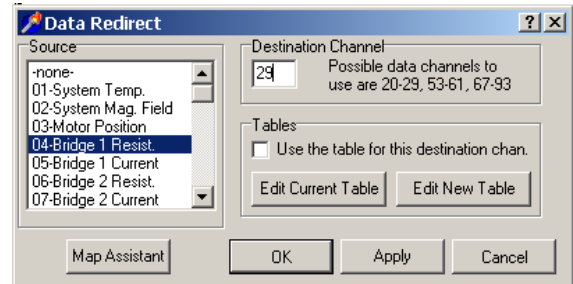

Figure 8. The Redirect Data dialog with the Source channel selected
3. When the **Data Redirect** dialog opens (Figure 8), select a **Source** channel. Here we selected "04-Bridge 1 Resist", which means that Bridge 1 on the user bridge board will be used to measure the resistance of the Cernox thermometer we have connected.